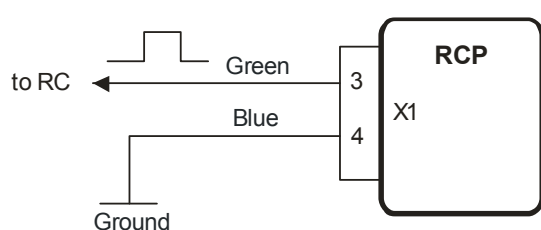
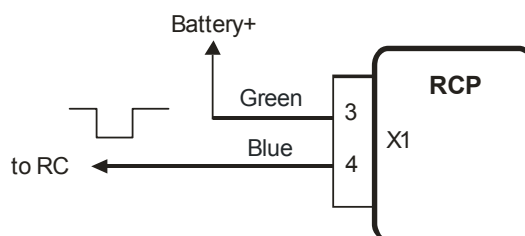

Figure 2
Figure 3
- The fig.2 presents the scheme of turning the heater on by the impulse of positive polarity. The fig.3 presents the scheme of turning the heater on by the impulse of negative polarity.